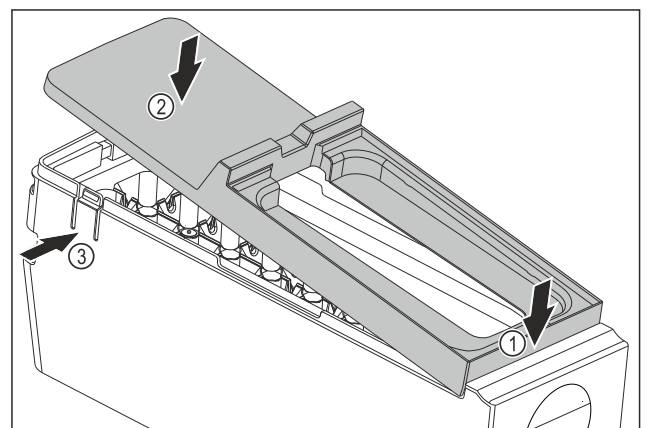

Fig. 90
- ▶ Installing the EasyTwist-Ice body cover: Place the cover on the front. Fig. 90 (1)
- ▶ Lower the cover at the rear. Fig. 90 (2)
- ▶ The cover locks into both tabs Fig. 90 (3) audibly.